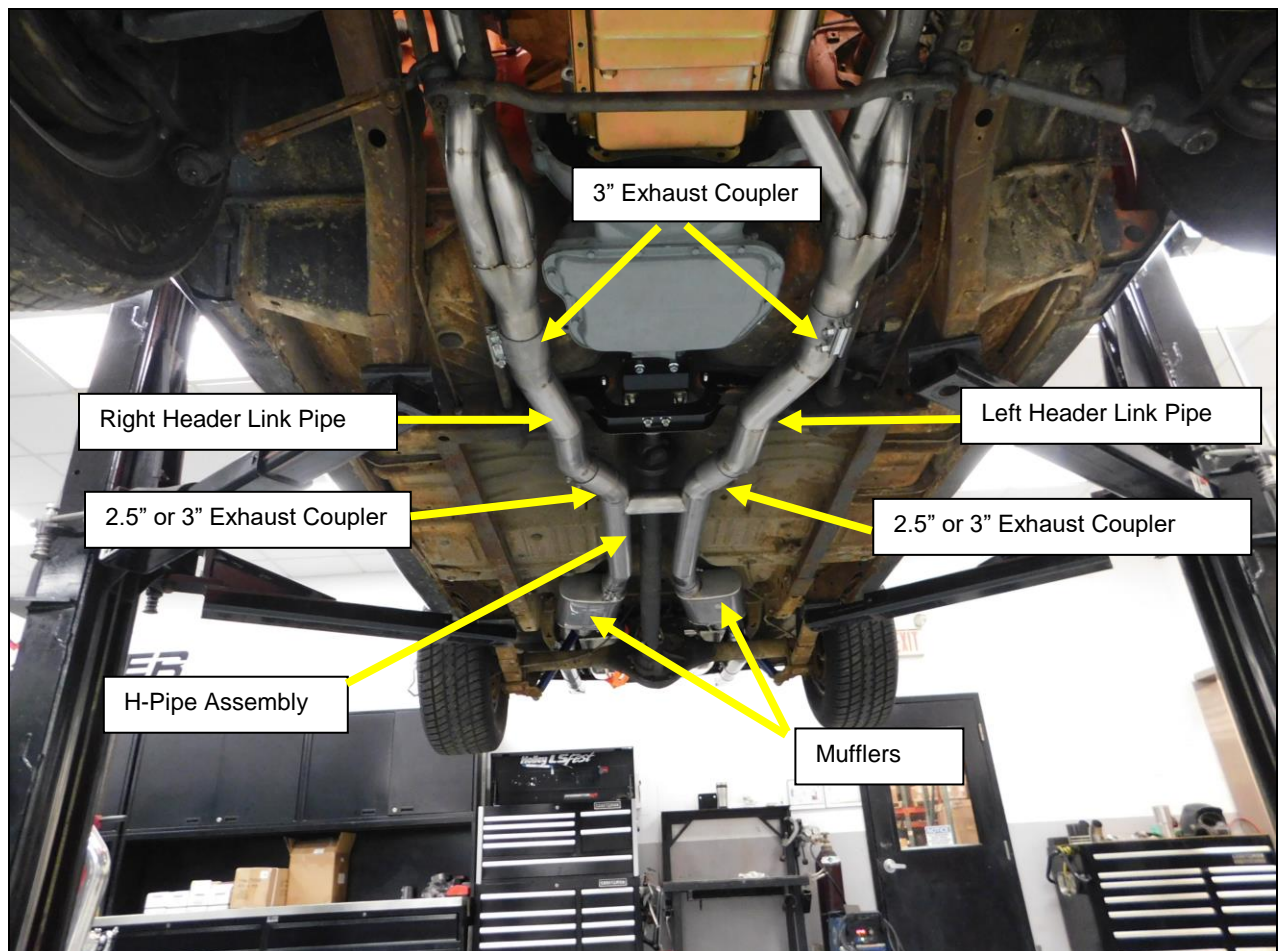

Figure 1
3. Align the 3" exhaust coupler with a 50-50 split over the header collector and the header link pipe. Tighten the coupler to allow for adjustment of the link pipe (**Figure 1**).
9. Install the muffler onto the H-pipe outlet (**Figures 1 & 2**).